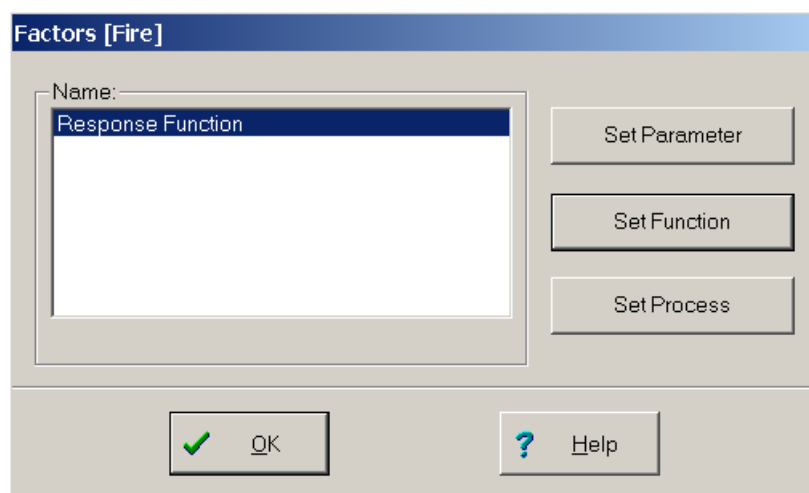

Figure 13.4 Factors window
12. Select the '**Factors**' button to open its window (Figure 13.4)